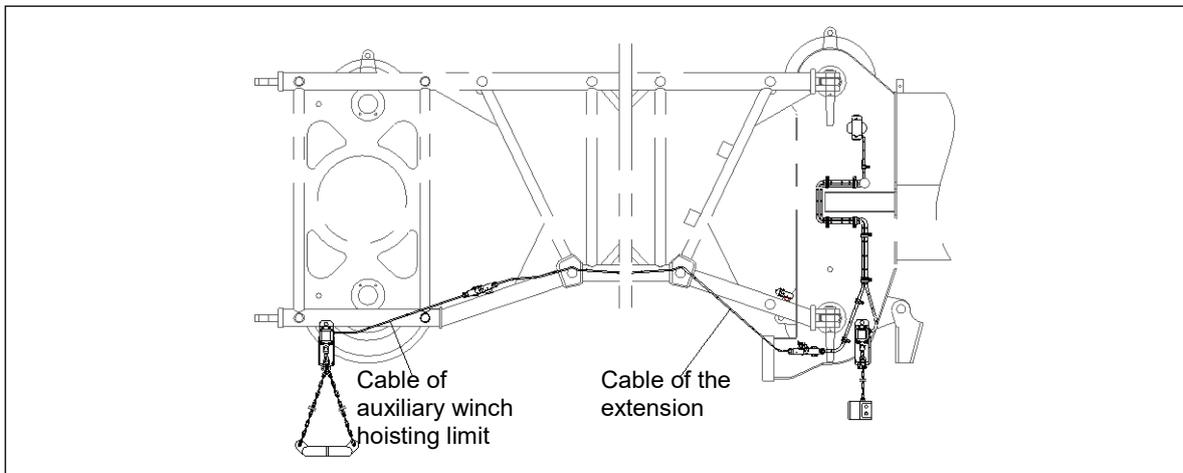

Figure 5-30 Cable connection in the extension
- Remove the hoisting limit switch installed in the jib and install it onto the position as shown in Figure 5-30;